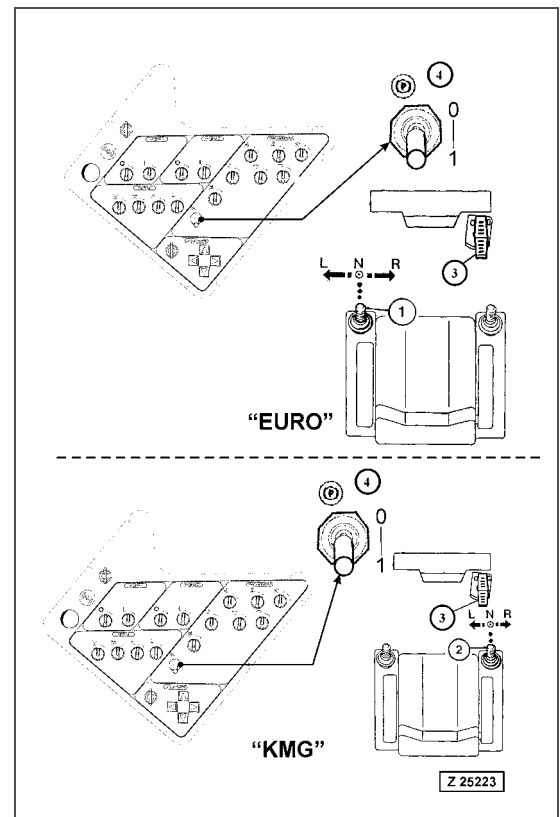

Fig. 3-93
Braking of the superstructure from a slewing movement is carried out first by returning the control lever (1) or (2), Fig. 3-93 to the neutral position (N). This procedure can be shortened by depressing the slew brake pedal (3).
#### Switch Positions, Fig. 3-93